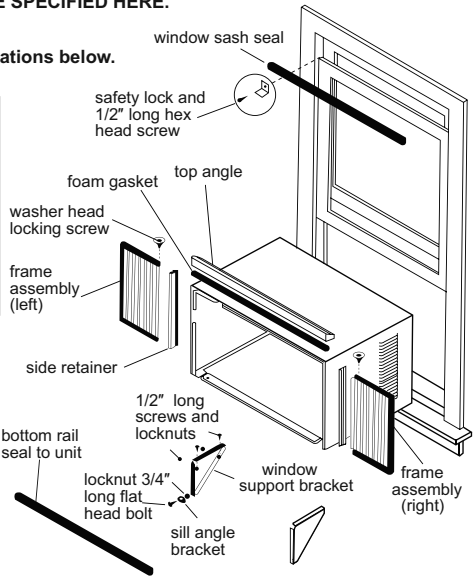

FIG.1
- 1. Check window opening size:** the mounting parts furnished with this air conditioner are made to install in a wooden sill double-hung window. The standard parts are for window dimensions listed above. Open sash to a minimum of 19" (483mm). (FIG.1)